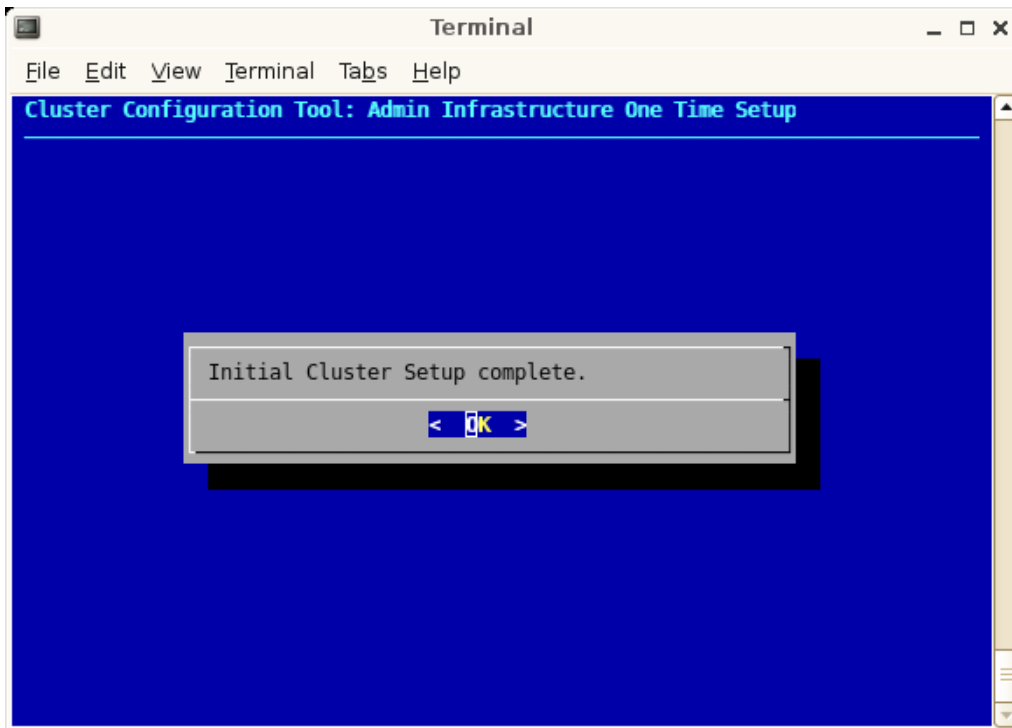

Figure 2-24 Admin Infrastructure One Time Setup Screen Two
36. Once the scripts have completed configuring the system admin controller, a completion message appears, as shown in Figure 2-24 on page 52. Click **OK** to continue.